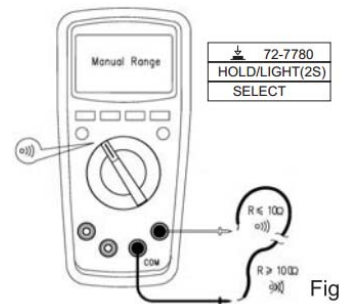

Figure 5
3. Continuity measurement (see figure 5)